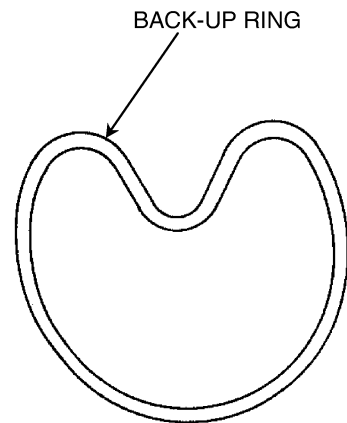

Fig. 6-8 Inserting slipper ring into backup ring
- 1) Coat O ring (6) lightly with hydraulic oil and install in the O ring groove. Also make sure that the O ring is not distorted after installation.
- 3) Slipper ring is assembled, after first inserting the backup ring, by slightly-distorting the shape as shown in Fig.6-8. Also after inserting all of the seals, be certain that these are installed in the seal groove by use of the spatula.